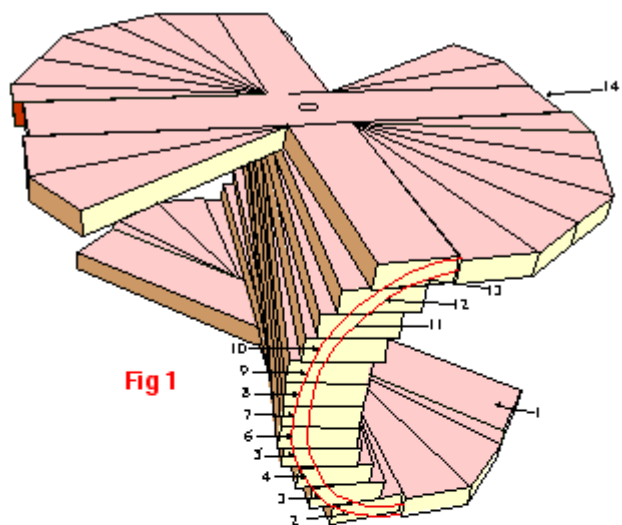

Fig 1
1. Saw to length and dress 4 sides of the 14 lengths of 3' 3 1/2" x 5" x 1 3/4". These lengths are shown and numbered at Fig 1. 1 - 14
11. Now disassemble the spiral, mark on the waste lines, and saw to waste where appropriate. Note that when clamping the spiral together, which is done in sections, the clamp jaws will require the square edge of the boards to get a grip for tightening. Look at the drawing Fig 1 and plan where you will position the clamps ahead of time.